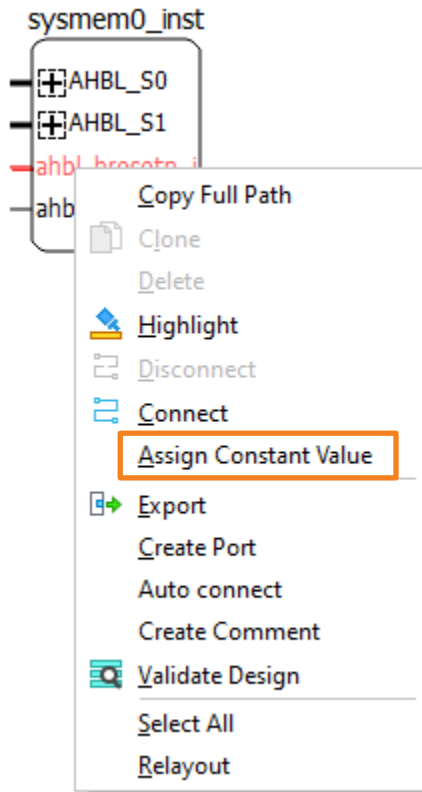

Figure 2.66. Action Menu of Right-clicking an Input Pin
- a. Select the desired pin and right-click the pin. Choose Assign Constant Value (Figure 2.66).